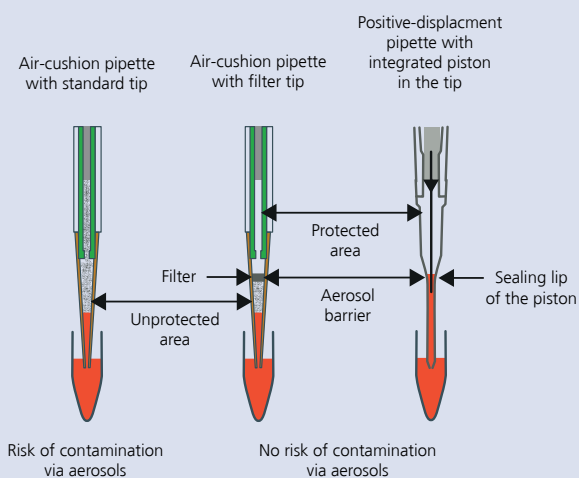

Fig. 1: Preventing contamination with piston-stroke pipettes
**Sample to pipette contamination** occurs if the sample or its aerosols enter the pipette. To avoid this, hold the pipette vertically when aspirating the liquid. Furthermore, it is recommended to immediately eject the pipette tip after use to prevent vapors from entering the pipette, and to store the pipette suspended in a pipette stand. In addition, the control button should generally be moved slowly upwards during aspiration. Filter tips offer the most effective way to prevent contamination. They prevent aerosols from entering the pipette and, thus, contamination of the pipette. Using positive displacement pipettes with tips featuring a piston with integrated sealing lip is also a way to prevent contamination of the pipette (Fig. 1).